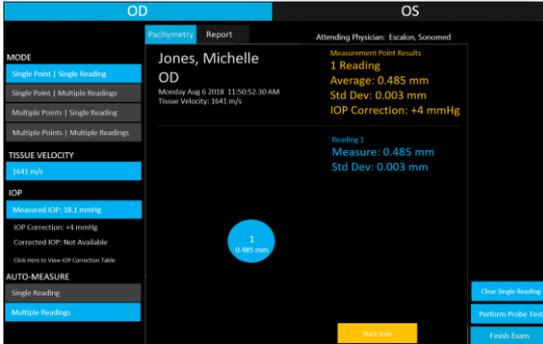

Fig. 13
- ① Select desired exam mode option: (Fig 13 and 14)